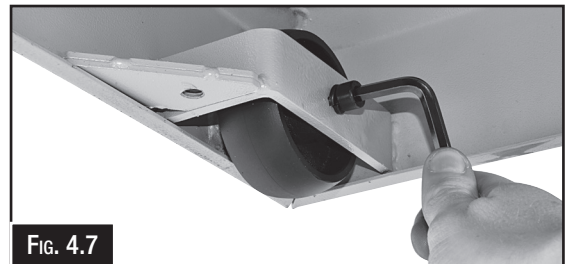

FIG. 4.7
1. Attach the rear wheels using the supplied cap head screws (see Fig. 4.7–4.8).